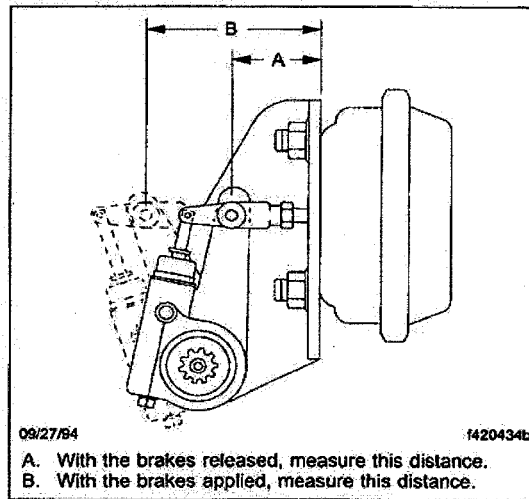

Fig. 11.14, Brake Stroke Check, Gunite Automatic Slack Adjuster
- With the brakes fully released, use a ruler to measure the distance from the bottom of the brake chamber to the center of the large clevis pin. See Fig. 11.14, Ref. A.
- Build air pressure to at least 85 psi (585 kPa). Apply the brakes, then measure the distance from the bottom of the brake chamber to the center of the large clevis pin. See Fig. 11.14, Ref. B. The difference between the measurements is the brake chamber stroke.